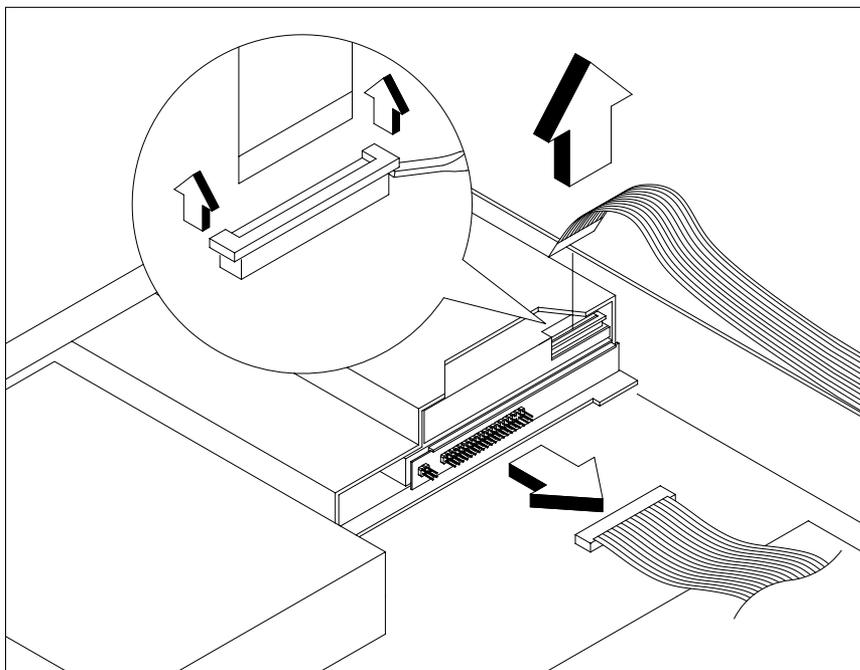

Figure 2-27 Disconnecting the Drive Module Signal Cables
4. Disconnect the CD-ROM drive signal cable from the CD-ROM drive connector as shown in Figure 2-27.
5. Disconnect the diskette drive signal cable from the diskette drive connector. To do so, lift the connector retaining latch and then pull the signal cable out of the connector as shown in Figure 2-27.